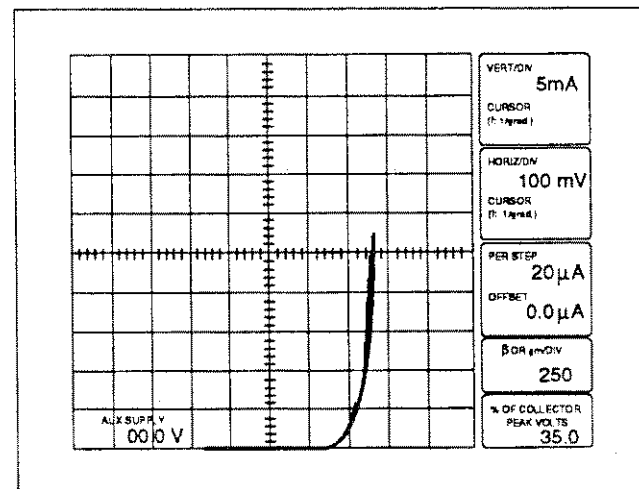

Figure 3-8. IC vs. VBE for 10 steps of base current.
18. Set the Step Generator PULSE control to OFF and the HORIZONTAL control counterclockwise to 100 mV BASE/EMITTER. Note the display of the collector current vs base-emitter voltage for ten different values of base current (see Figure 3-8).